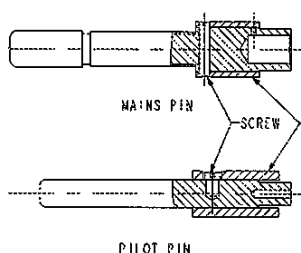

Fig.4 CRIMPED PIN
7. For crimped pins the screws and sleeving must be removed. Insert conductor. The crimp should be equally spaced on the end portion. Use crimping dies 'Erma' ref. HJ or 'BICC' ref. U855 or 'Neilson' ref. ME14 on the Mains Pin, and 'Erma' ref. HF or HG, or 'BICC' ref. U854, or 'Neilson' ref. MK8 on the Pilot Pin. After crimping replace the sleeving and screws. See fig.4.